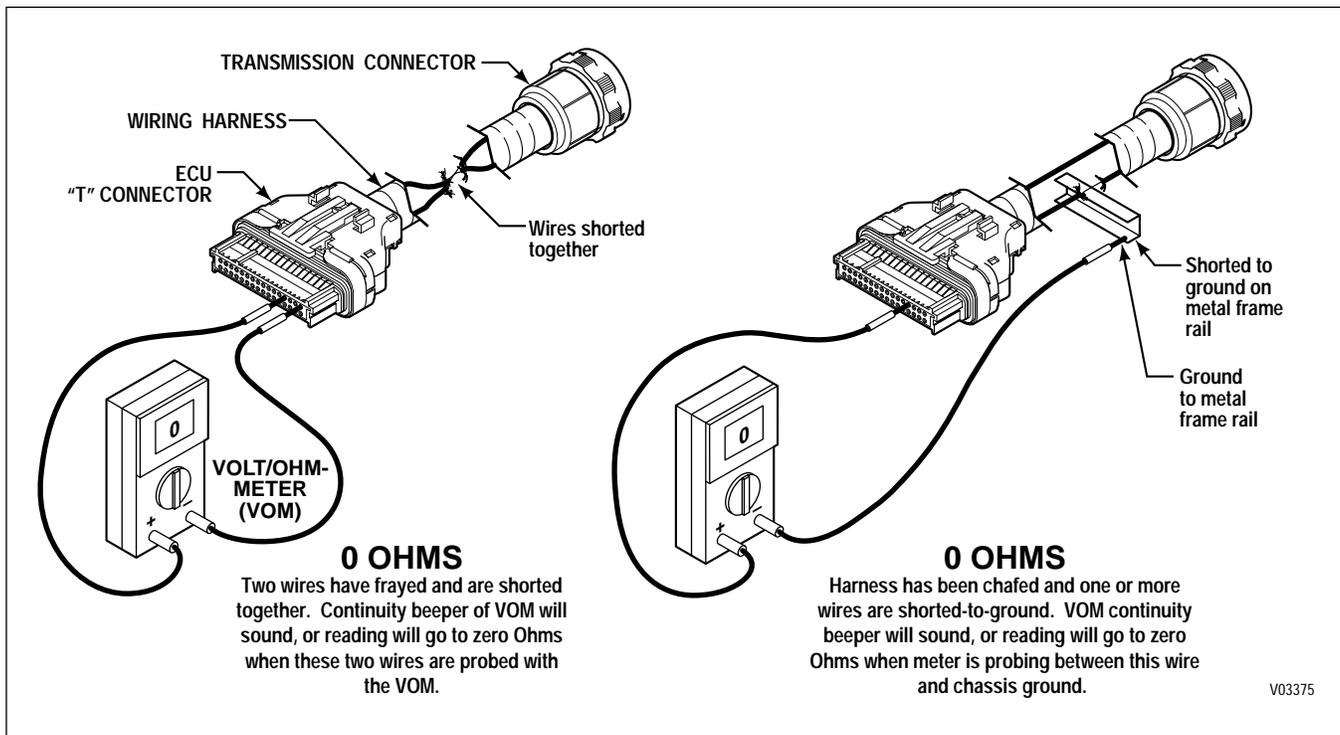

Figure 4–2. Short Between Wires or to Ground
- (2) On the opposite end of the harness, check the continuity of the jumpered pair. No continuity in a jumpered pair circuit (infinite resistance reading) indicates an open in the wire being tested. Locate and repair the damaged portion of the wire.
- b. If the continuity check is good (0–2 Ohms resistance), remove the jumpers. Check the harness for shorts between wires and shorts-to-ground by performing the following (refer to Figure 4–2):
- (1) At the ECU end of the harness, touch one VOM probe to one wire of the circuit being tested and touch the other probe to each terminal in the same connector, then touch the probe to chassis ground and to the transmission main housing. Do this for both wires in the circuit being tested.
- (2) If at any time the VOM shows zero to low resistance, or the meter's continuity beeper sounds, there is a short between the two points being probed — wire-to-wire or wire-to-ground. Isolate and repair the short.
3. If the connectors are clean and connected correctly, determine which wires in the harness to test. Use the diagnostic code system schematic to locate the wire terminals. For this example, Code 45 12 indicates a failure in the F solenoid circuit — wires 102-T1 and 120-T4 (refer to Figure 4–3 and 4–4).